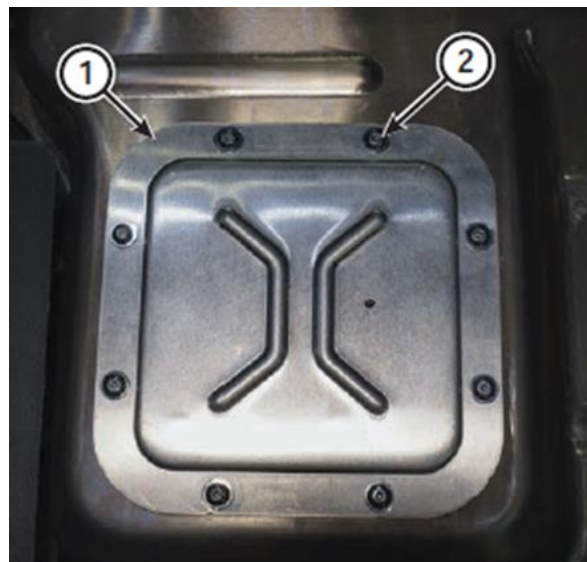

Figure 2 – High Voltage Test Point Access Cover
12. The high voltage service test points access cover is located on the battery pack, under driver side rear seat cushion (Figure 2).
13. Remove the M6 Torx screws from the high voltage service test points access cover (Figure 2).
14. Carefully remove the test points access cover and set in a protected location such that the cover plate alignment and HVIL pins are not damaged (Figure 2).